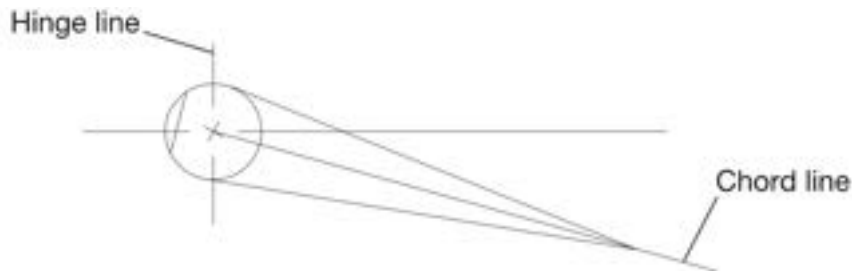

Figure 4
- B. Underbalance (refer to Figure 4) is defined as the condition that exists when surface is trailing edge heavy and is defined by symbol (+). If the balance beam uses a sliding weight, the weight must be on the leading edge side of the hinge line (to balance the control surface), is considered to be under balanced.